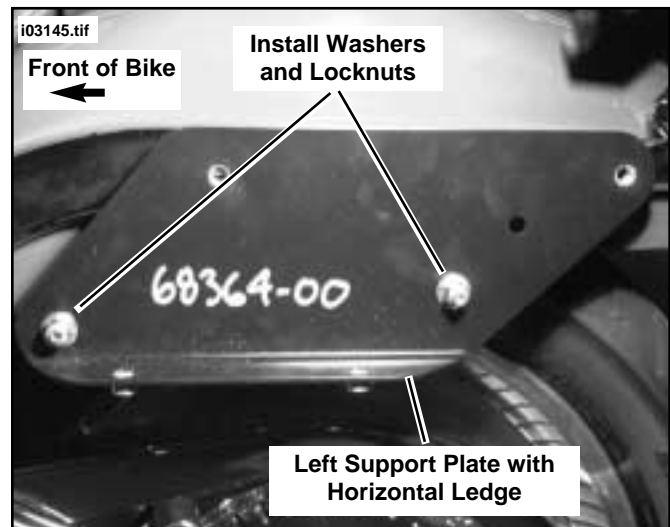

Figure 20. Install Left Saddlebag Support Plate
9. See Figure 20. Obtain the left saddlebag support plate (P/N 68364-00). With horizontal ledge facing outward (away from motorcycle), install plate, then install washer (P/N 6701) and lock nut. Use a wrench to keep bolt heads from turning and tighten lock nuts to 27 ft-lbs (36.6 Nm).